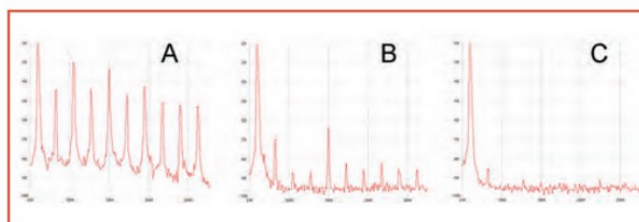

FIGURE 8: Effect of different levels of filtering: A none, B 5-pole, C 7-pole.
Figure 8 shows the output of the '45W' amp (A) with no filter, (B) through a commercially available 5-pole filter and (C) with a 7-pole filter. Only then is the harmonic suppression adequate. Suitable 7-pole filters are available as kits (via eBay and elsewhere) but it is advisable to check the performance with a network analyser and, if necessary, slightly modify the component values to achieve optimum results. A switchable bank of 5-pole filters bought ready-made via eBay (Photo 6) proved to have an incorrect capacitor in the 80m section, which resulted in almost a short circuit at its input. The number of turns on four of the coils were not optimum either, but nevertheless it was a very useful purchase. A good site for information on the design of filters is at [4].